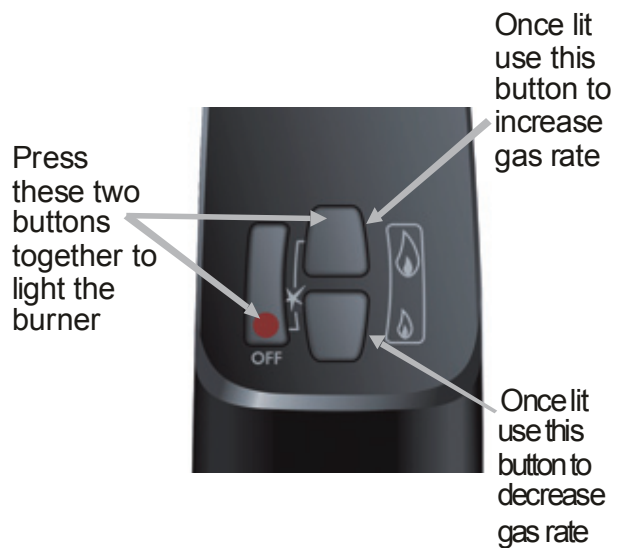

Figure 16 – Total Control Handset
4. To adjust the gas rate to desired setting press the 🔥 (large flame) to increase the flame height or 🔥 (small flame) to decrease the flame height on the handset (see **Figure 16**).